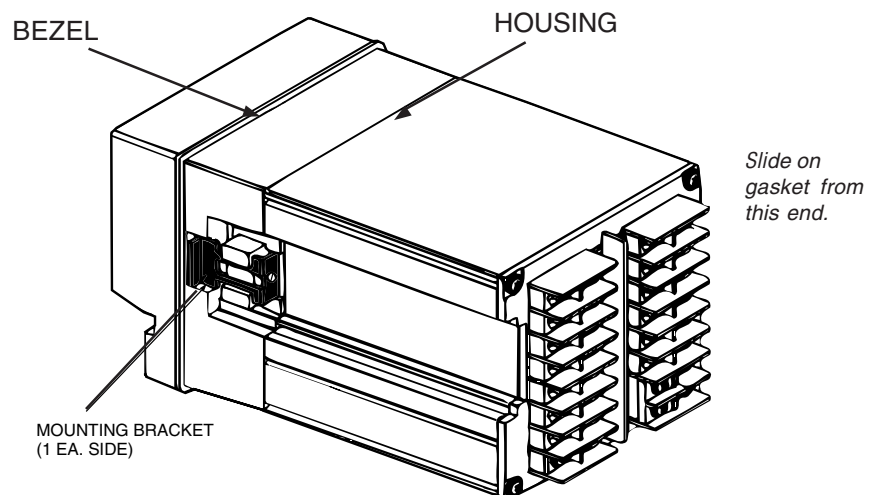

Figure 4.2
3. From behind the panel, insert the mounting clips (one on each side), as shown in Figure 4.2.